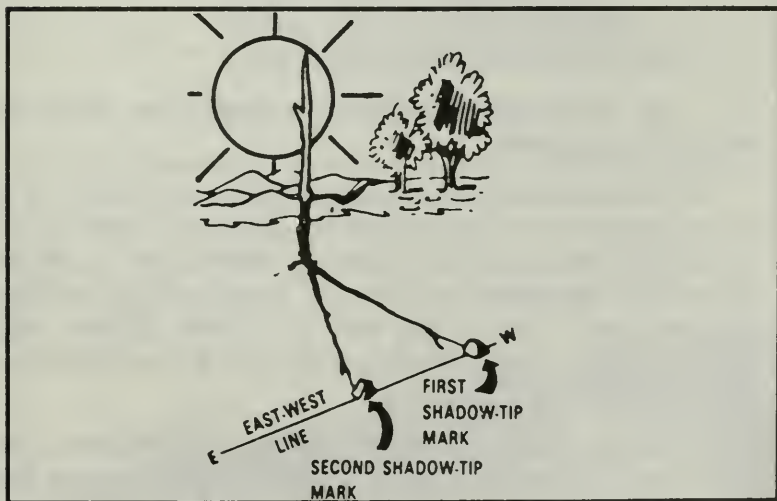

Figure 41. East-West line.
c. Draw a straight line through the two marks you made on the shadow tips. This line is an east-west line (Figure 41).
(1) The sun rises in the east and sets in the west.
(2) The shadow tip moves in the opposite direction.
(3) The first shadow-tip mark you make is always west, and the second mark is always east.